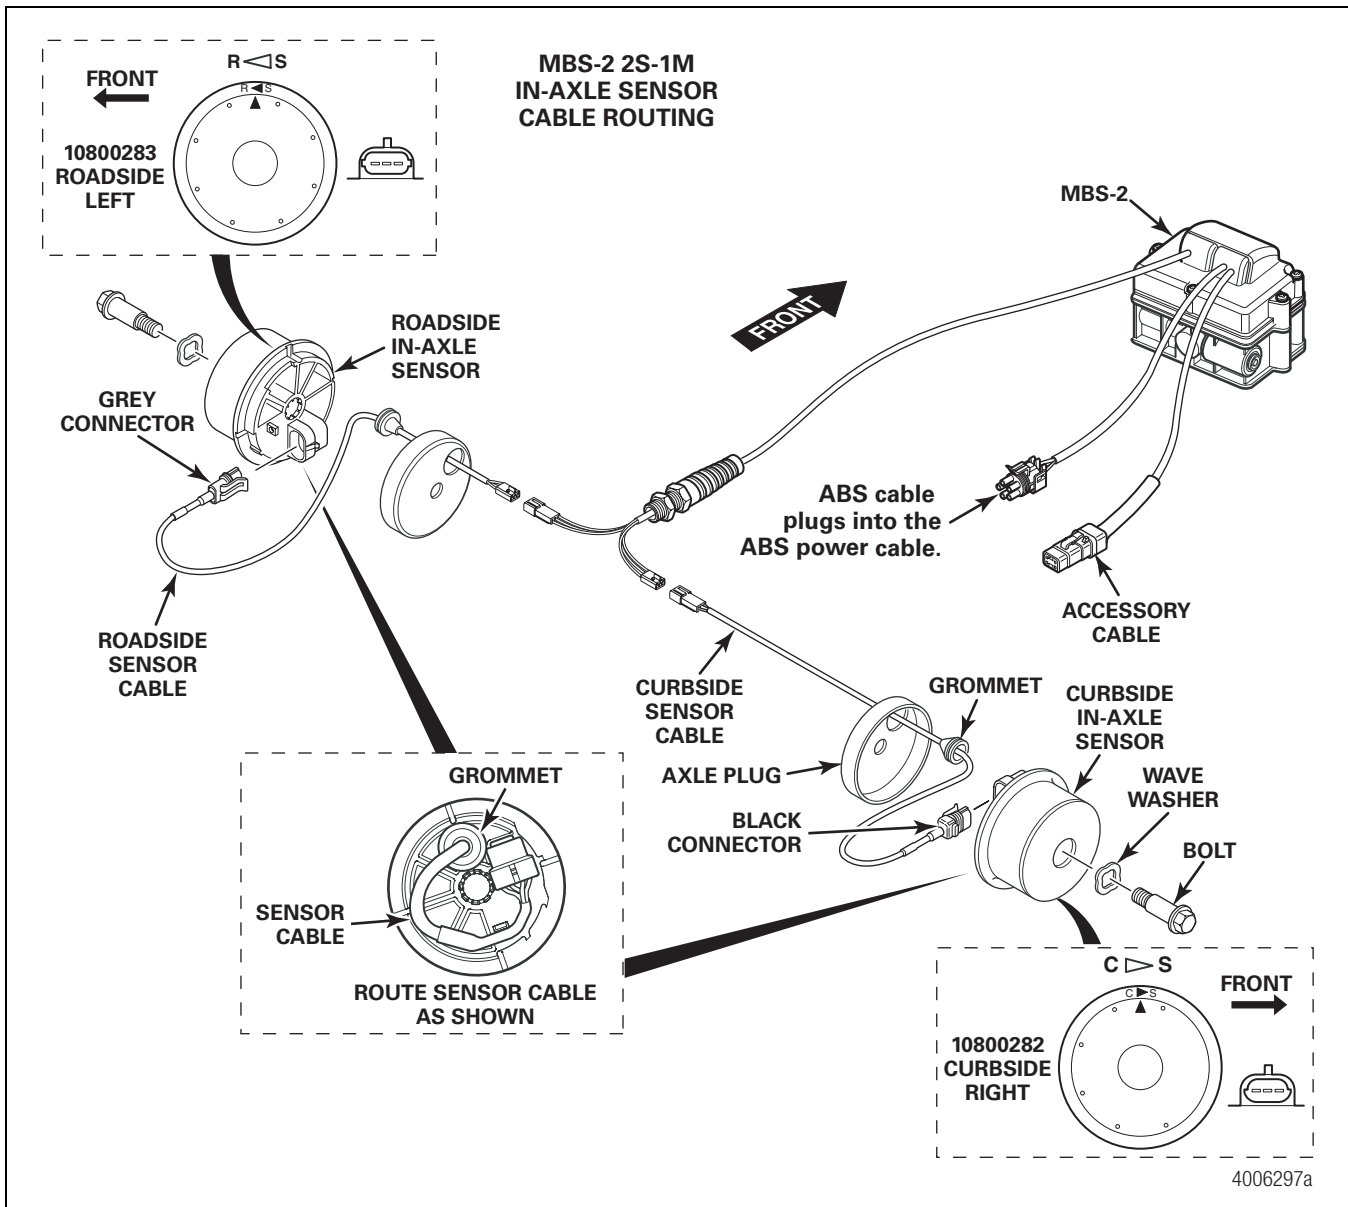

Figure 3
1. Pull the axle feed-through cable from the axle and cut the cable near the Y-intersection of this cable. Refer to Figure 3.
3. Remove the 1/2-inch bolt and wave washer from the in-axle sensor. Then remove the in-axle sensor from the axle spindle, unplugging the grey (roadside) or black (curbside) connector from the back of the sensor. Figure 3.